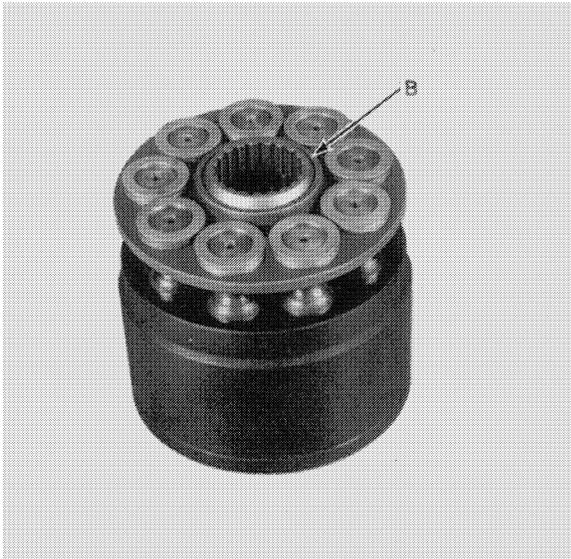

FIGURE 11
7. Lift the piston plate, pivot, and shoe assemblies, B, Figure 11, out of the rotating block. Lay these parts on cardboard to avoid damage to them.
5. Make sure the pivot and shoe assemblies are installed in the rotating block as shown in Figure 11.